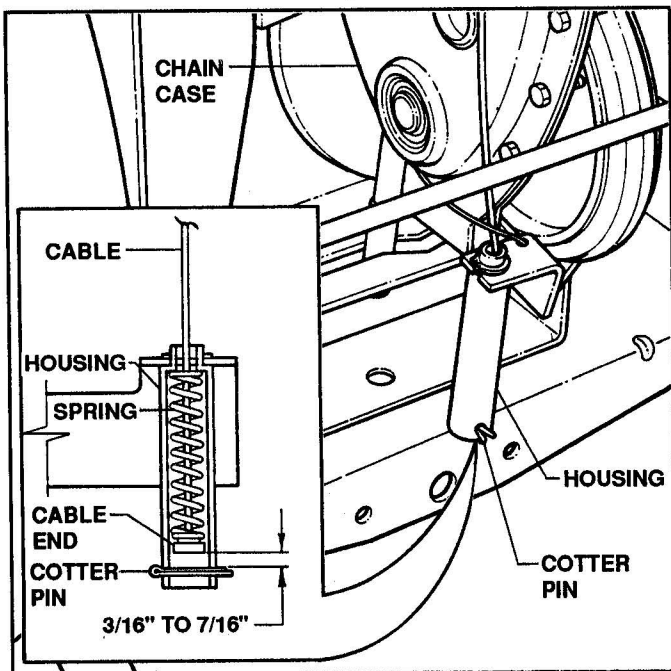

FIGURE 4.16
3. Measure the distance between end of clutch/brake cable and top of cotter pin. Measurement should be no less than $3/16$ " and no greater than $7/16$ ". See Figure 4.16.
5. Adjust cable up or down using the jam nuts to obtain a distance of $5/16$ " between end of clutch/brake cable and top of cotter pin. Refer to Figure 4.16.